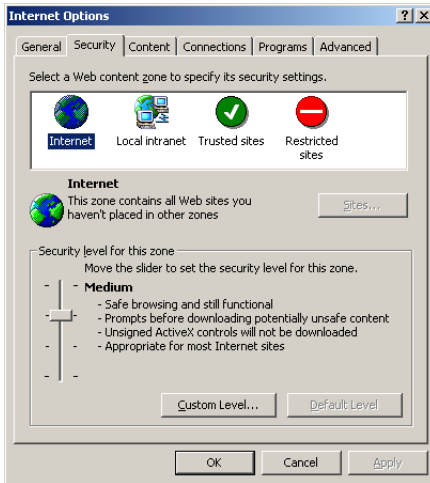

Figure 7-1 Default Internet Security Options
8. Click the "Custom Level" button. The Security Settings options will appear. See Figure 7-1.